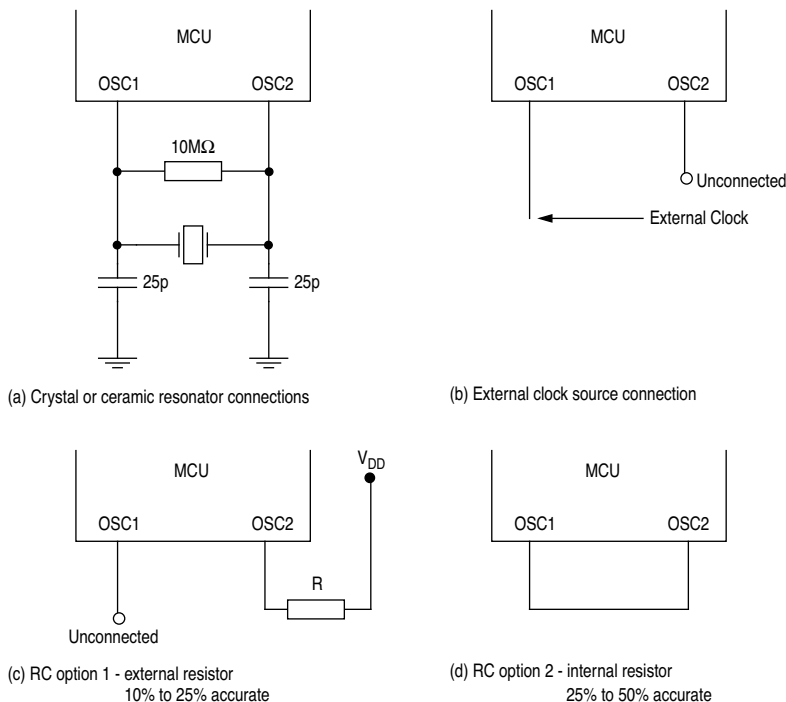

Figure 2-1 Oscillator Connections
- 1) A crystal or ceramic resonator as shown in Figure 2-1(a).
- 2) An external clock signal as shown in Figure 2-1(b).
- 3) RC options as shown in Figure 2-1(c) and Figure 2-1(d).
The circuit in Figure 2-1(a) shows a typical oscillator circuit for an AT-cut, parallel resonant crystal. The crystal manufacturer's recommendations should be followed, as the crystal parameters determine the external component values required to provide maximum stability and reliable start-up. The load capacitance values used in the oscillator circuit design should include all stray capacitances. The crystal and components should be mounted as close as possible to the pins for start-up stabilization and to minimize output distortion. An external start-up resistor of approximately 10MΩ is needed between OSC1 and OSC2 for the crystal type oscillator.
An external clock from another CMOS-compatible device can be connected to the OSC1 input, with the OSC2 input not connected, as shown in Figure 2-1(b).